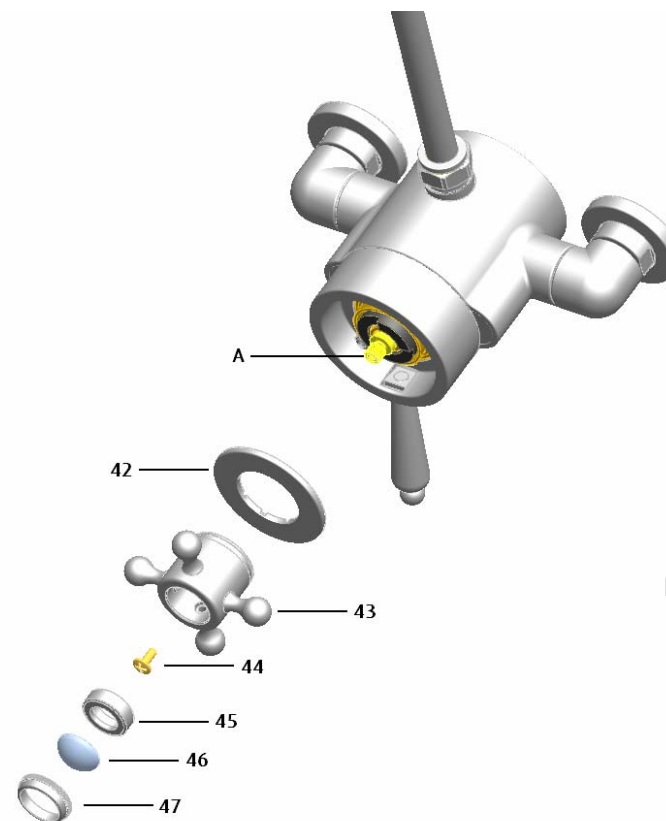

Fig. 6
8.8 Resetting the Maximum Temperature (See Fig. 6)